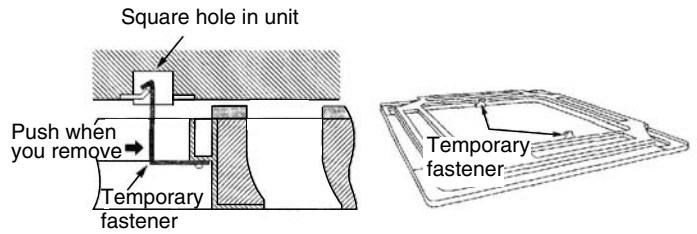
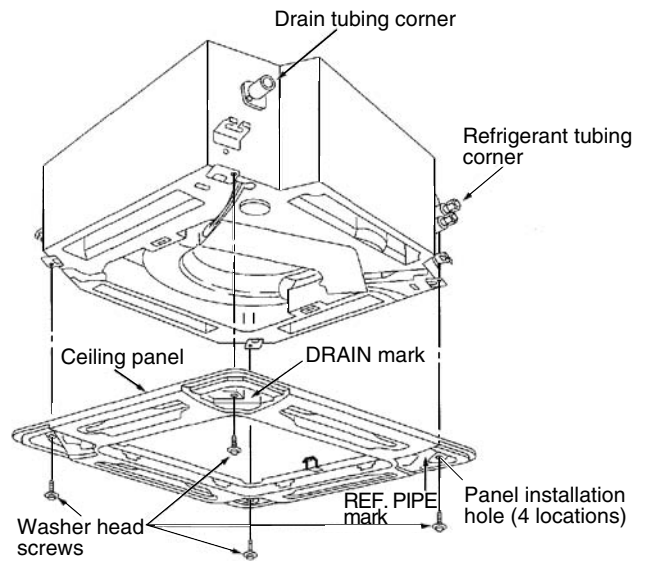
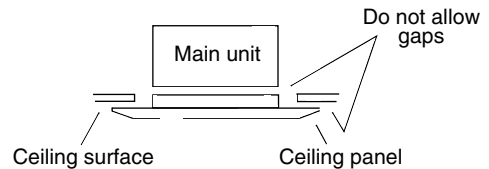

Fig. 9-29
Fig. 9-30
Fig. 9-31
- (1) Insert the temporary fasteners (stainless steel) on the inside of the ceiling panel into the square holes on the unit to temporarily fasten the ceiling panel in place. (Fig. 9-29)
- To remove the ceiling panel, support the ceiling panel while pressing the temporary fasteners toward the outside. (Fig. 9-29)
- (2) Align the panel installation holes and the unit screw holes.
- (3) Tighten the supplied washer head screws at the 4 panel installation locations so that the panel is attached tightly to the unit. (Fig. 9-30)
- (4) Check that the panel is attached tightly to the ceiling.
- At this time, make sure that there are no gaps between the unit and the ceiling panel, or between the ceiling panel and the ceiling surface. (Fig. 9-31)